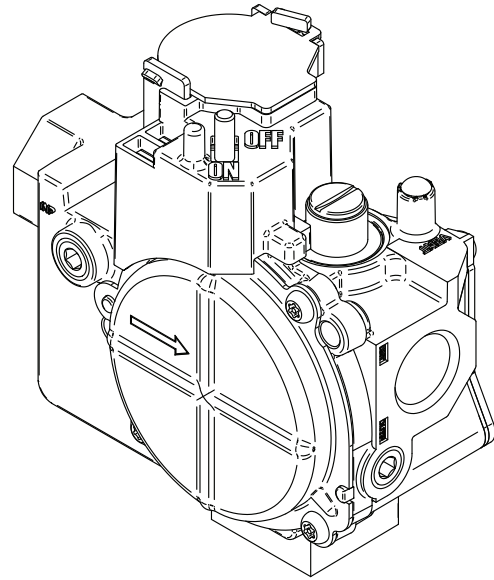

Fig. 41 - Gas Control Valve
- b. Remove manifold pressure tap plug from gas valve. (See Fig. 41.)